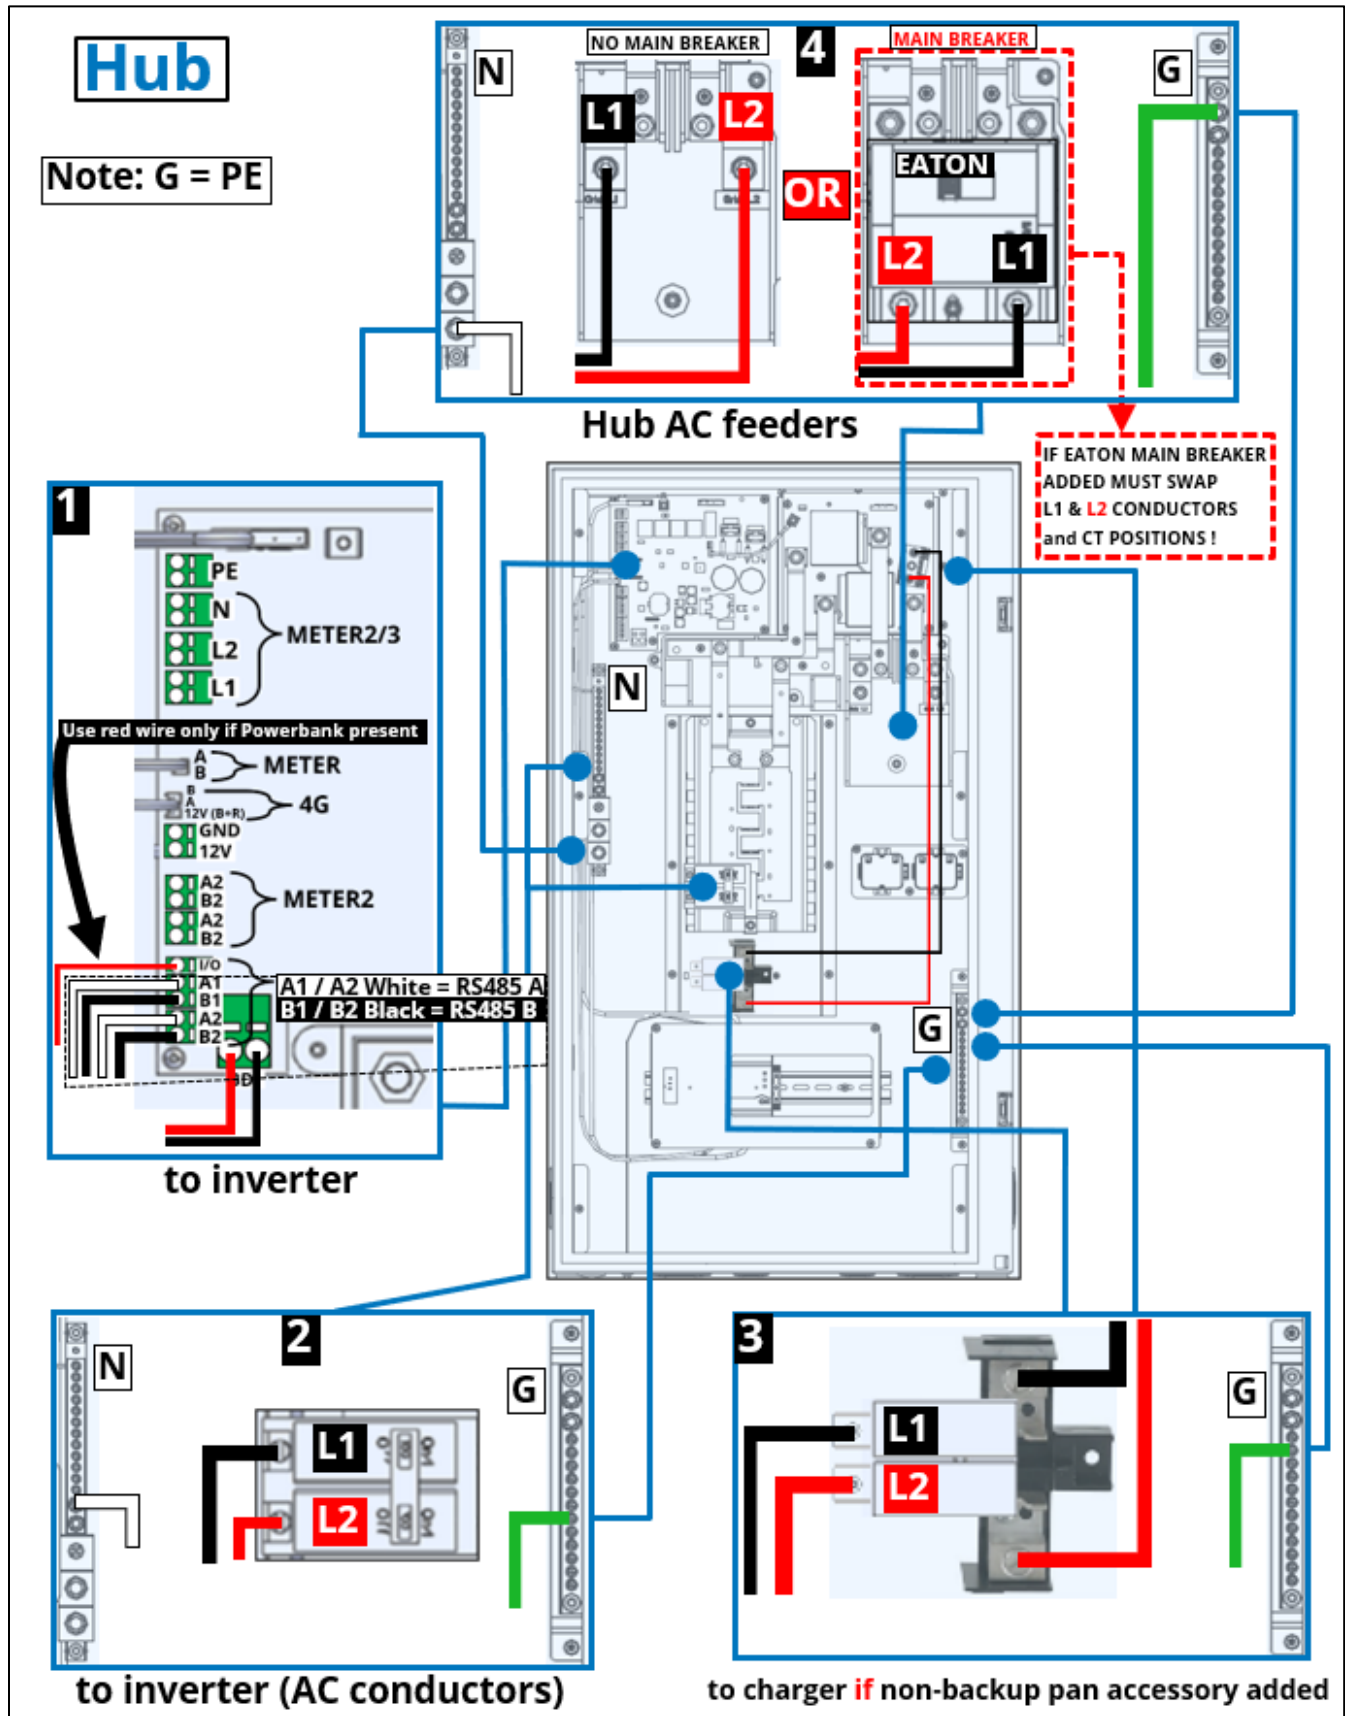
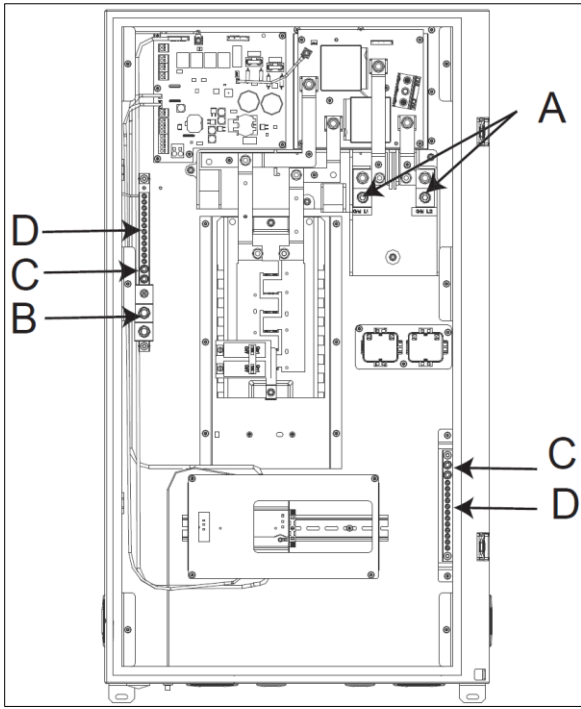

Figure 29: Home Hub wiring locations
Figure 31: Home Hub grid power connections
3. Strip and tighten the AC conductors (**L1, L2, N, G**) according to Figure 29 callout 2 and Table 11.
Depending on your conduit strategy, attach conduit and a watertight conduit fitting to either the 2" **Grid** knockout on the bottom right OR the 2" **Grid** knockout on the side right (see Figure 8). Pull the Hub AC feeders (black **L1**, red **L2**, green ground, and gray neutral/PE) wires through the conduit into either of the 2" entries, and then strip 1.25" from each end. Land the wires and tighten as per Figure 29 callout 4 and Table 5. Table 12 shows the wiring information for the connections shown in Figure 31.
Refer to Figure 29 callout 1 and Table 11: